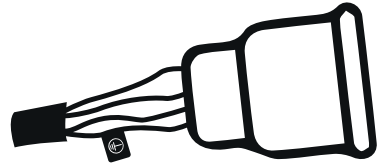

Figure 5: Power Plug Connection
- No plug has been connected to the mains cable since there may different types of outlets available in plants, construction sites and workshops. A suitable plug must be connected by a qualified technician. (Figure 5). Make sure that the grounding cable marked with  and a yellow/green color is present.